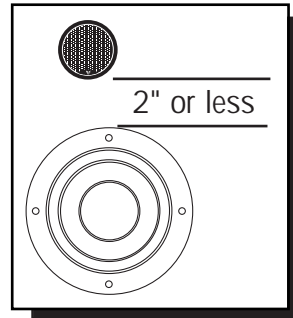

Figure 1
- For the best integration between the midrange and tweeter, the tweeter should be placed less than 2" from the midrange. (Figure 1)